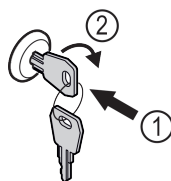

Fig. 202
- Insert the key. Fig. 202 (1)
- Turn the key clockwise by 90°. Fig. 202 (2)